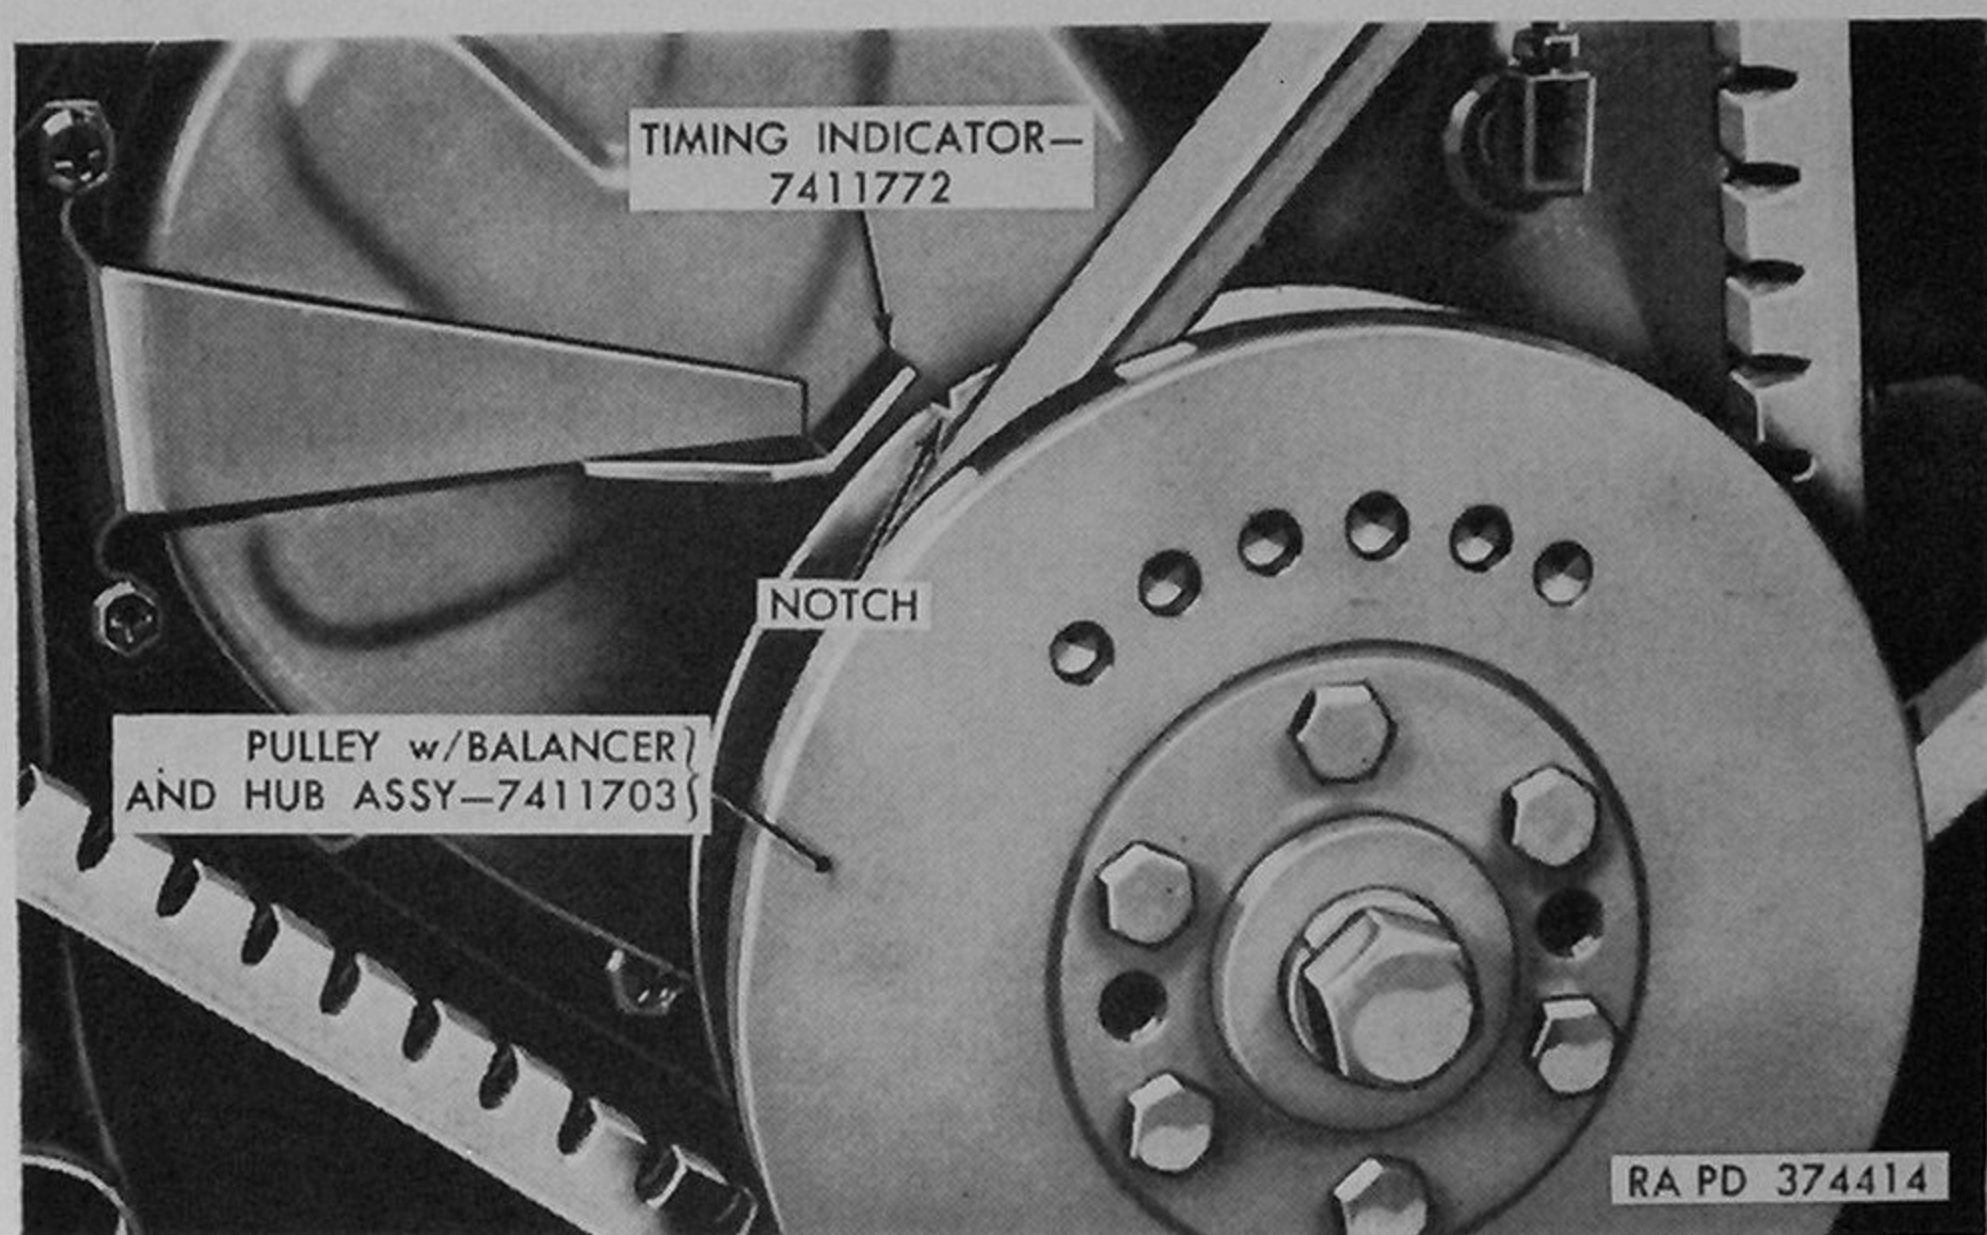
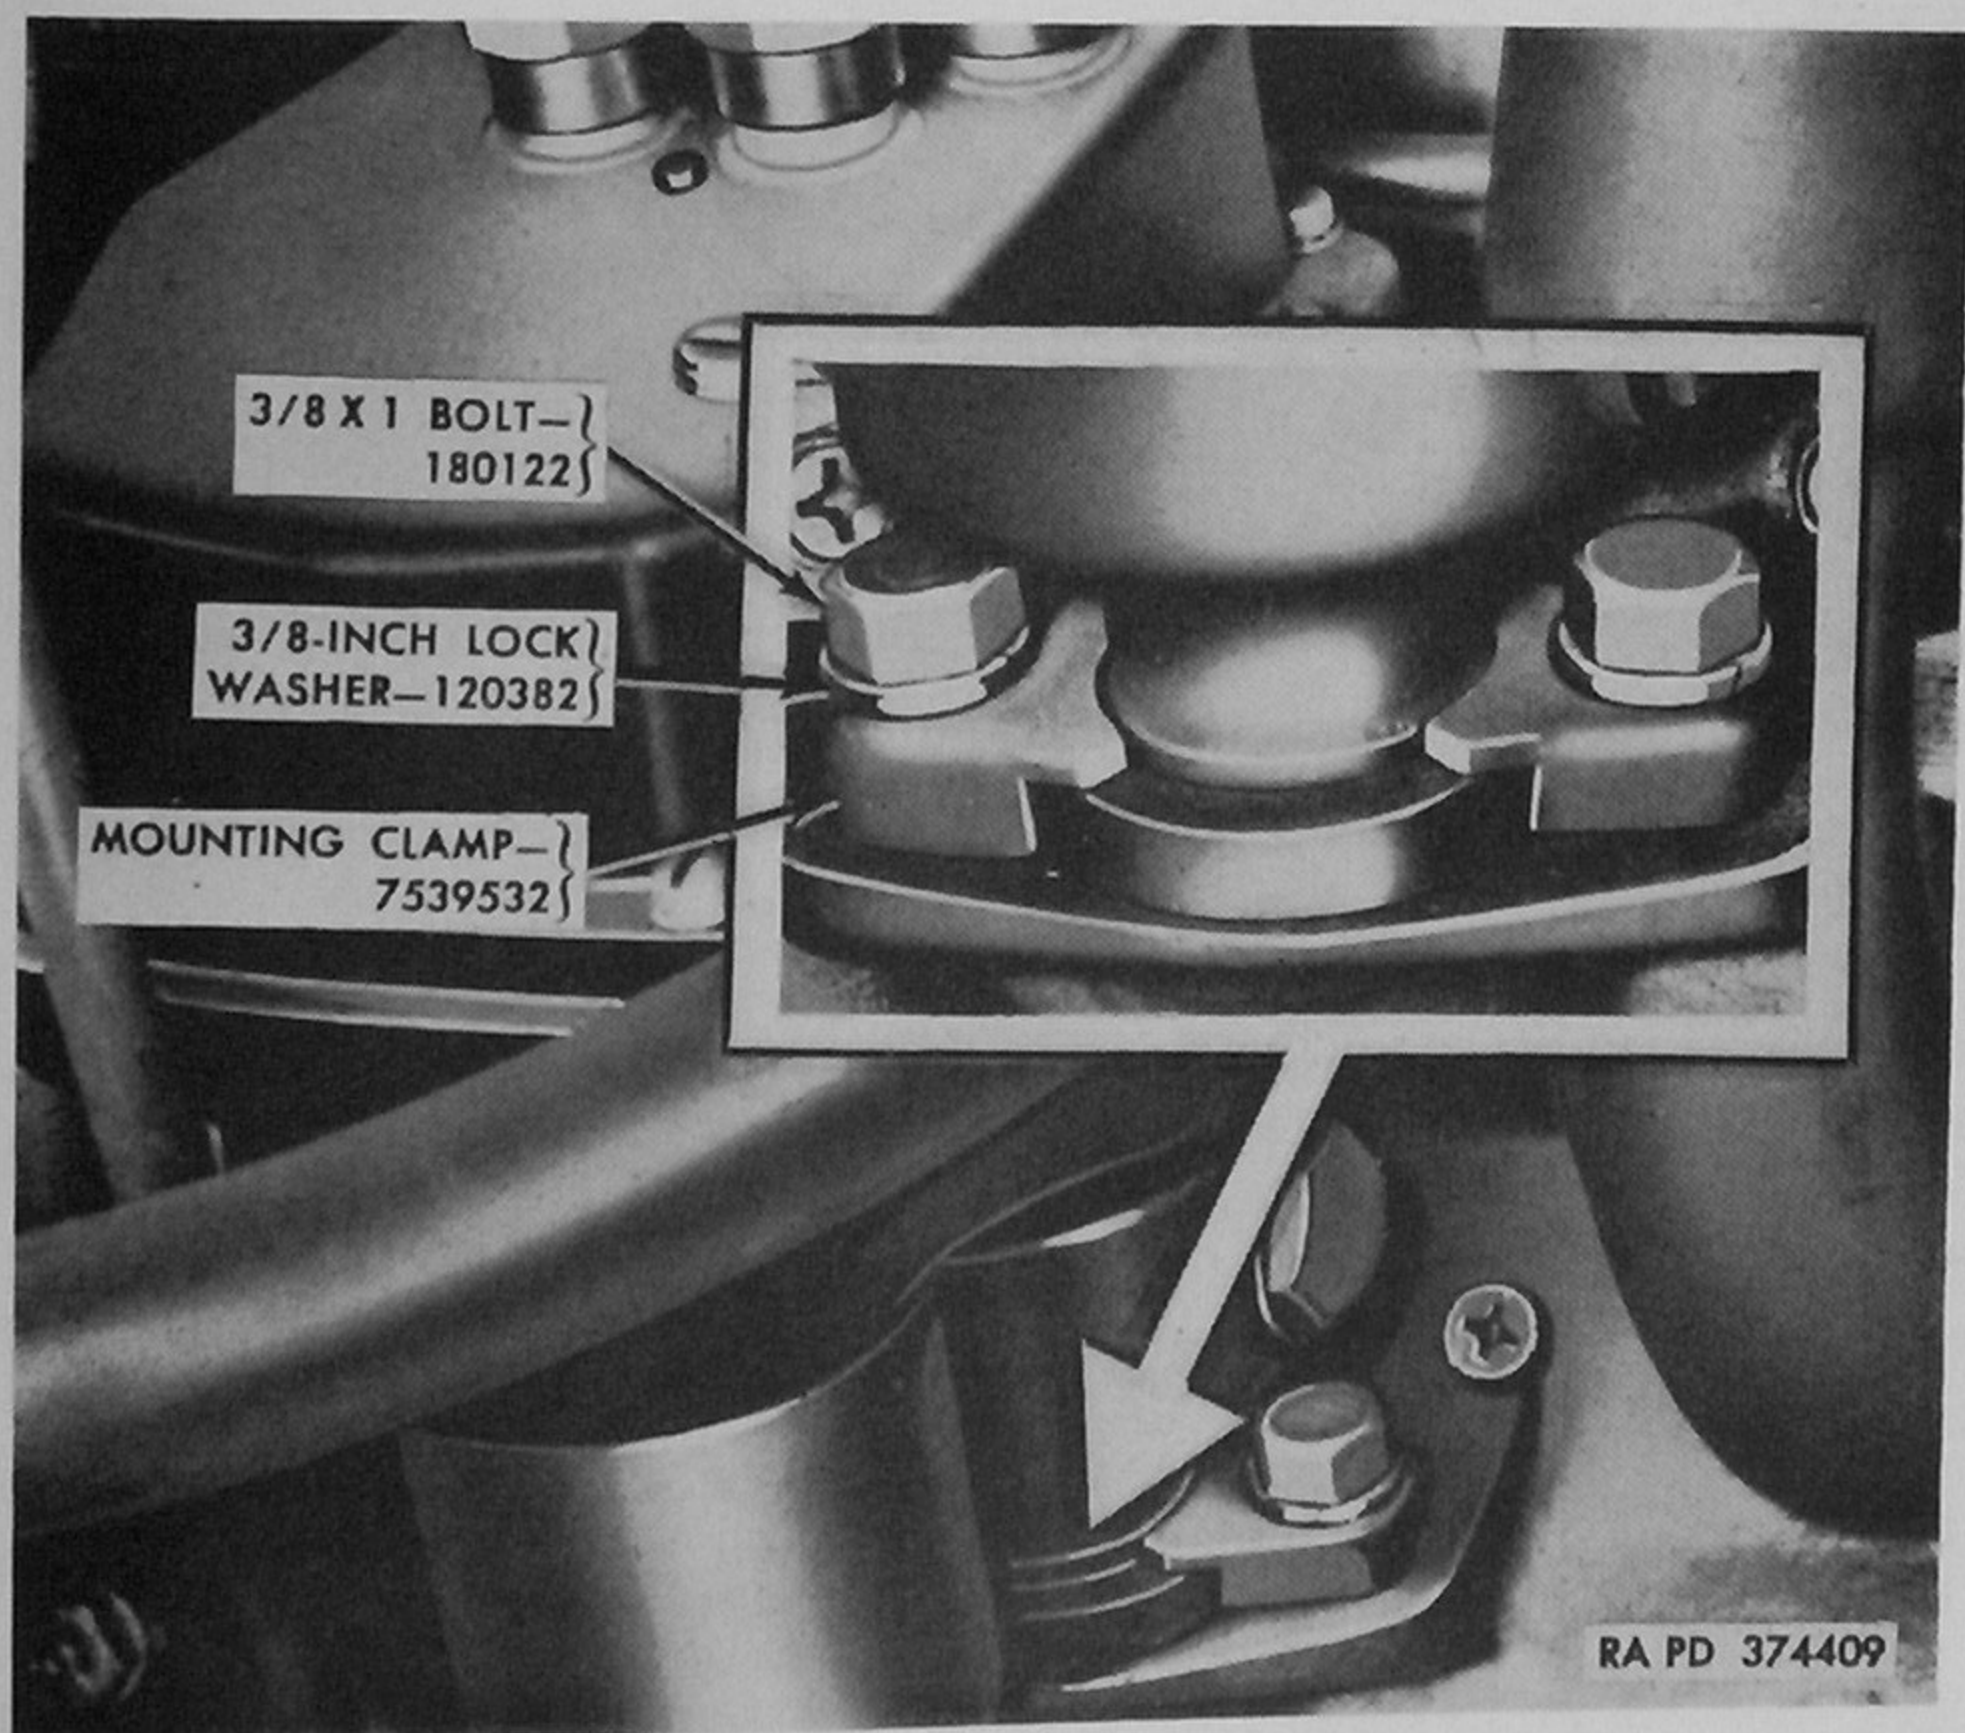

Figure 185. Location of timing notch on crankshaft pulley—engine assemblies 7411599 and 8726920.
Figure 187. Distributor mounting clamp attaching bolts installed.
- (11) Engine crankshaft should be turned over several revolutions before starting to determine whether any parts are binding.
c. *Ignition Timing.* With engine idling (375 rpm), check ignition timing. Direct beam of timing light toward end of timing indicator (fig. 185 or 186) on timing gear cover. Timing light flashes make timing notch on crankshaft pulley appear stationary. Loosen  $\frac{3}{8}$  x 1 bolts (fig. 187), which secure the distributor clamp, and turn distributor housing clockwise or counterclockwise as necessary to synchronize flashes with timing notch when it is alined with edge of timing indicator. Tighten bolts.